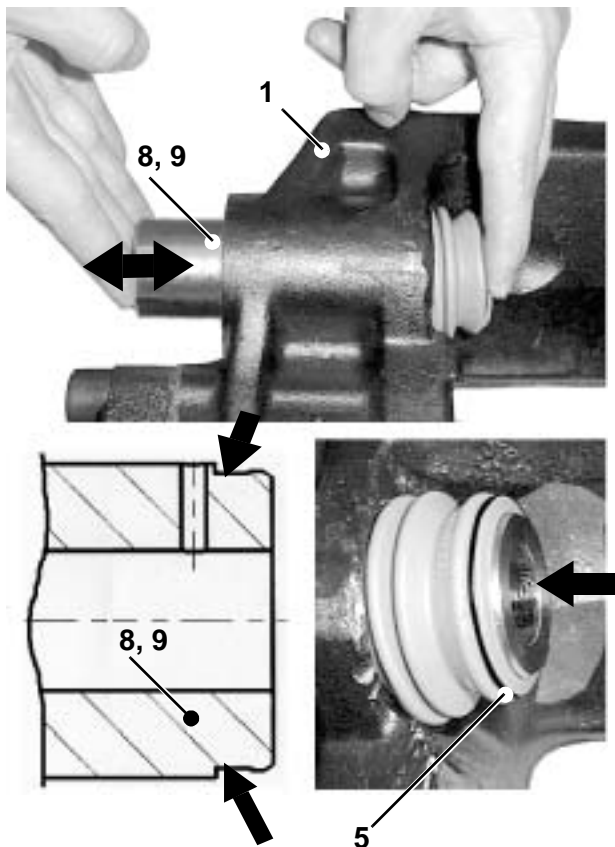

Fig. 44
- Grease the sliding surfaces of the guide pins (8, 9) and the inner lip of the gaiters (5).
- Insert the **new** guide pins from the cylinder side into the caliper (1), and
- push gaiter (5) against its guide pin seat (8, 9).
- Move guide pins backwards and forwards as shown in Figure 44 several times. Check for ease of movement.
Do not lose the metal-ring on gaiter 5 and check the proper seat (right side in Fig. 44)!